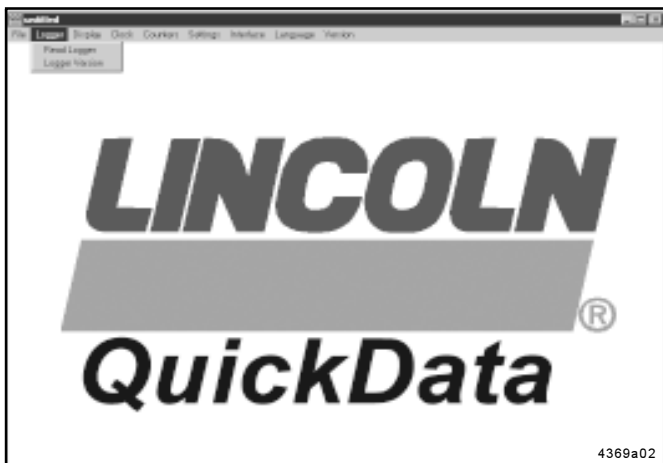
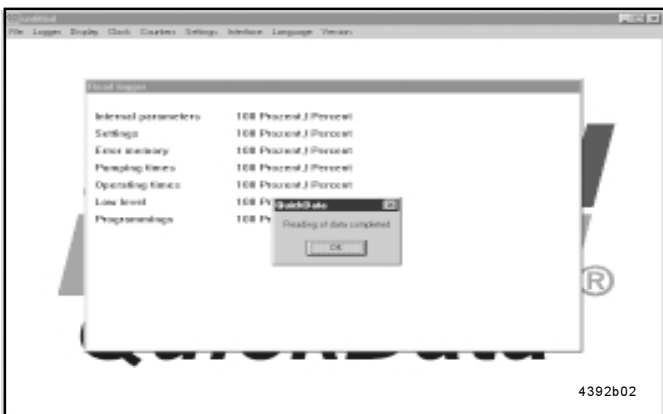

Fig. 8 - Menu bar: Logger
Fig. 10 - Reading of Data completed
- * Read the data in the **Logger** menu by clicking on the button **Read Logger**, see fig. 8. A display window like shown in fig. 10 will pop up.